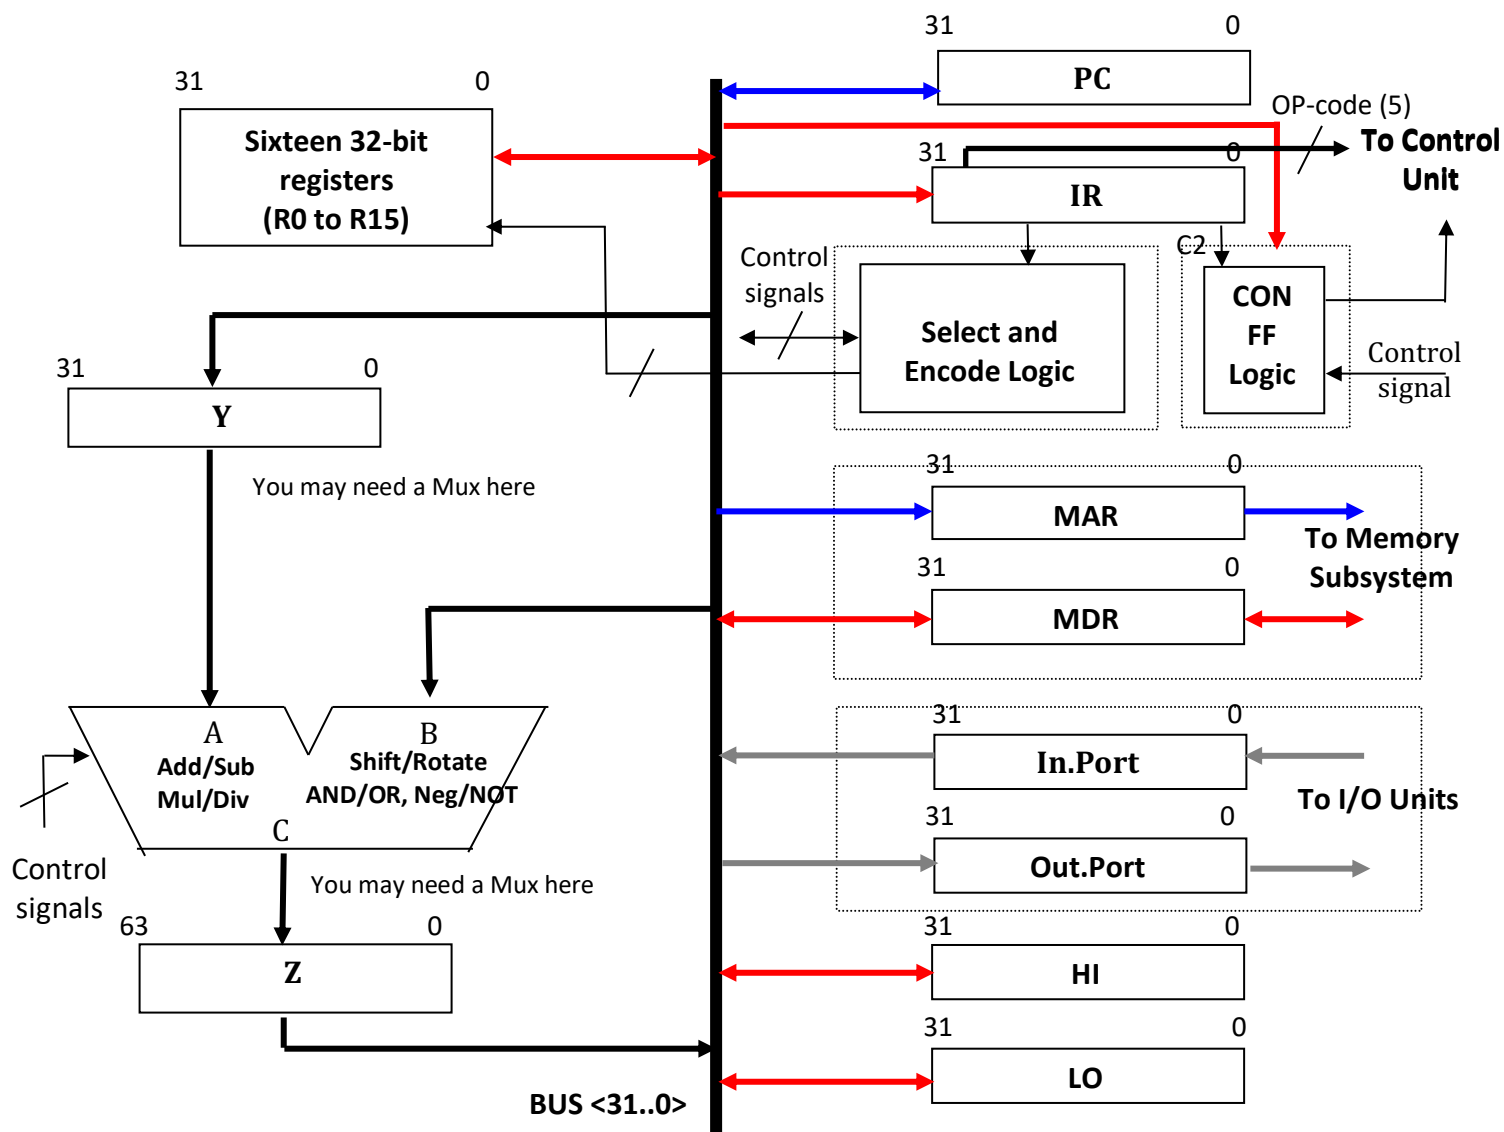

Figure 1: Simplified datapath
2.1 DataPath: Figure 1 illustrates a simplified single-bus Datapath for the Mini SRC (see Figure 4.2 on page 143 and Figure 4.3 on page 148 of the Lab Reader). As shown in Figure 1, the datapath consists of a 32-bit bus, BUS. The bus is responsible for transferring the information among different components of the system. There can be only one transaction at a time on a single bus. There are sixteen 32-bit registers *R0* through *R15* in the Mini SRC, as discussed in the CPU specification. There are also two dedicated 32-bit registers *H1* and *L0* for holding the result of a multiplication or a division operation. The 32-bit *Instruction Register*, *IR*, holds the current instruction. The 32-bit *Program Counter*, *PC*, points to the address of the next instruction after the execution of the current instruction. *PC* is incremented by 1 during the instruction fetch, using *IncPC* control signal in the *Arithmetic Logic Unit* (ALU). You may instead opt for a hardware incrementer outside ALU. In general, you are welcome to come up with your own ideas and design decisions during the entire CPU design project.
Design the datapath shown in Figure 1 (except for the “Select and Encode Logic”, “CON FF Logic”, “Memory Subsystem”, and “Input/Output ports” units) using Schematic Capture, HDL (VHDL or Verilog), or a mixed schematic/HDL in Quartus II design software. You are advised to follow the steps below when designing your datapath:
1. Design the registers R0 to R15, PC, IR, Y, Z, MAR, HI, and LO (see Figures 1 and 2).